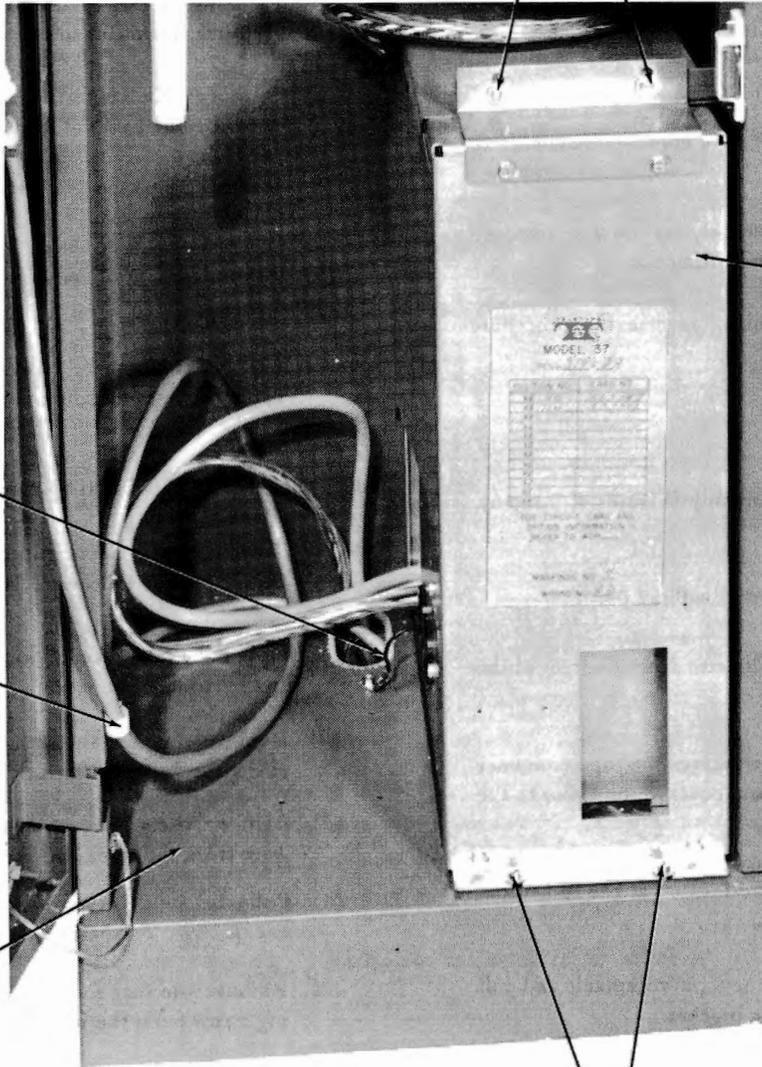

Figure 7 - Electrical Service Unit
2.09 To remove the electrical service unit (Figures 7 and 8), proceed as follows.